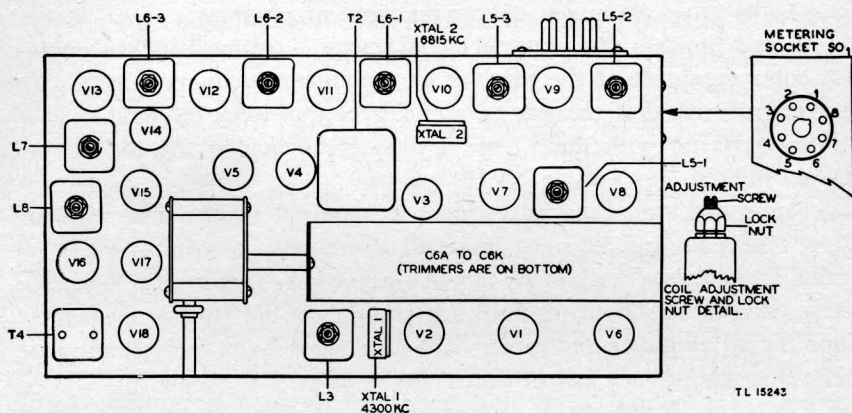

Figure 85. Radio Receiver and Transmitter BC-1000-A, alignment instruction detail—top view.
(4) Plug in Handset TS-15-( ).
(5) Set Alignment Indicator I-210-( ) VOLTAGE SELECTOR SWITCH in the 4.5-volt position, short the test probe to the alligator clip, and adjust the calibrate knob for a hairline shadow on the indicator eye.
(6) Loosen the locknuts on L3, L5-1, L5-2, L5-3, L6-1, L6-2, L6-3, L7, and L8, just enough to leave some tension on the screw adjustment. (See fig. 85.) Use the spintite wrench found in Maintenance Equipment ME-40-( ).
(7) Screw phantom Antenna A-28-( ) into the antenna terminal of Radio Receiver and Transmitter BC-1000-A, and attach the ground lead to the GROUND FOR SHORT ANT. post.
(8) Turn on the set.
(9) Plug Alignment Indicator I-210-( ) into Battery BA-39.
(10) Throw the VTVI VOLTAGE SELECTOR SWITCH SW1 to the 30-volt position and turn the CALIBRATE knob to open the shadow angle on the indicator eye to 90°.
*b.* ALIGNING 4.3-MEGACYCLE OSCILLATOR. (1) Insert the test probe in metering socket pin No. 4 of Radio Receiver and Transmitter BC-1000-A and fasten the alligator clip to the chassis.
*a. PRELIMINARY PROCEDURE.* (1) Remove the chassis of Radio Receiver and Transmitter DC-1000-A from the case.
(2) Before attempting to align the set, check all the tubes, using the method outlined in table XII.
(3) Connect Radio Receiver and Transmitter BC-1000-A to Battery BA-70 or BA-80 with the battery cord furnished with Maintenance Equipment ME-40-( ), or plug the set directly into the battery.
(5) Turn on the set.
(6) Check the discriminator, *b*(5), below.
(7) Loosen locknuts on L3, L5-1, L5-2, L5-3, L6-1, L6-2, L6-3, L7, and L8 just enough to allow adjustment of screws. (See fig. 85.)
(8) Turn on the 4.3-mc signal generator and allow it to warm up for at least 15 minutes.
(9) Use a suitable phantom antenna, such as phantom Antenna A-28-( ), if available. When employing this procedure in the field, do not press the PRESS FOR DIAL LIGHT & CALIB. button unless a phantom antenna is installed.
*b. ALIGNMENT. (1) 4.3-megacycle crystal oscillator. (a)* Insert the electronic voltmeter probe into pin No. 4 of the metering socket.